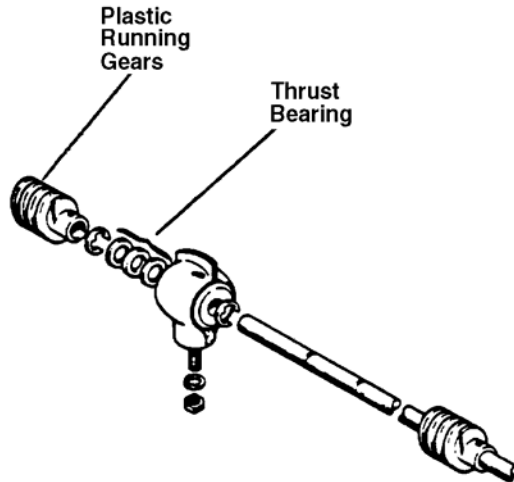

Figure 1-3. Drive motor.
(a) Apply a thin coat of SAE-30 oil to the drive chain. Be careful not to drip any oil on the electrical wiring. See figure 1-3.
d. **Perform Quarterly Preventive Maintenance Checks Services.** After performing the daily, weekly, and monthly PMCS and after it has been three months since the previous quarterly PMCS, the operator performs the quarterly PMCS. It consists of adding several drops of SAE-30 oil to the output shaft bearing on the drive motor reducer. Refer to figure 1-3.